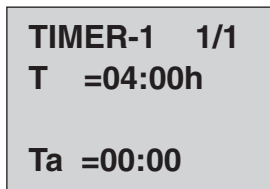

Fig. 6
6. Each timer has optional units of time in seconds (s), minutes (m), and hours (h). To change the unit of time use the left/right arrow keys **◀** or **▶** to move the cursor to the unit field. Change the unit of time using the arrow up/down keys **▲** or **▼**. Once all the values have been set press **OK** to accept. (See figure 6)